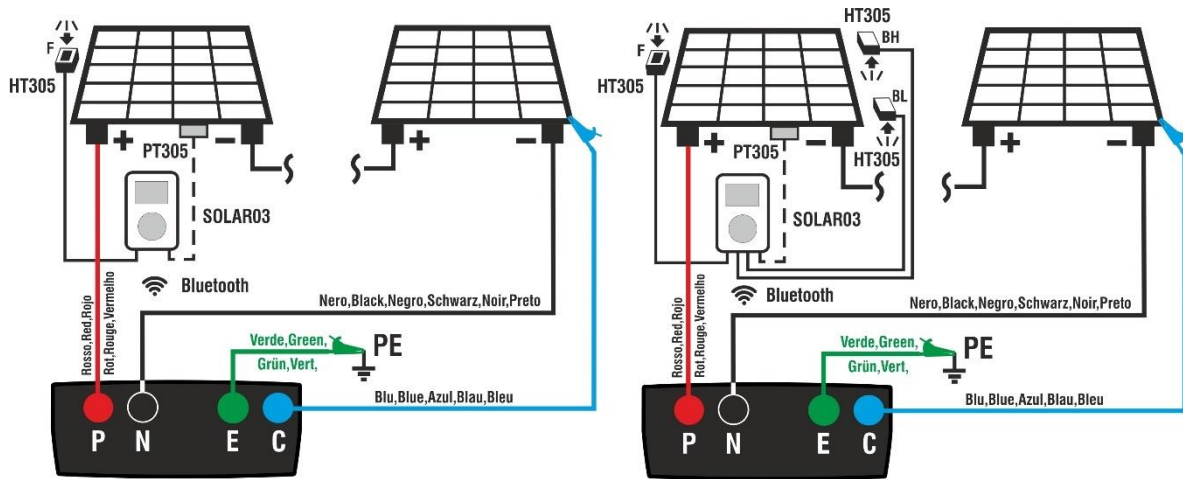

Fig. 12: Connection of SOLAR03 in direct connection on Mono/Bifacial PV modules
2. Connect the instrument to the PV module/string being tested and to the main earth node of the system, and to the metal masses connected to earth as shown in Fig. 12. In detail:
- **In case of Bifacial modules** → position the **3 reference cells HT305** onto the front surface of module (**F**), onto the back top part (**BH=BackHigh**) and onto the back bottom part (**BL=BackLow**) of the module. Connect the front reference cell (F) to input “**INP1**”, BH reference cell to input “**INP2**”, BL reference cell to input “**INP3**” and **possibly** the temperature probe **PT305** to input “**INP4**” of the remote unit. In accordance with the IEC/EN60904-1-2 standard, the instrument calculates the equivalent front-side Irradiance (**Irreq**) value, which corresponds to the Irradiance on the front surface only, which produces the same effects as the Irradiance measured on both sides, considering the **bifaciality factor** ( $\varphi$ ) of the module according to the following relationship: